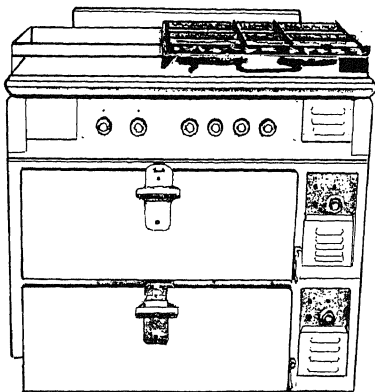

Figure 6-7.—Type S electric range.
**TYPE S.**—Type S (fig. 6-7) is found on submarines. The type S is a compact galley unit consisting of a griddle on the left side and hot plates on the right side. A two-compartment oven section makes up the body of the range. Dial temperature control knobs are mounted on the body directly adjacent to each section. The temperature control knobs for the ovens are located directly to the right of each oven compartment.